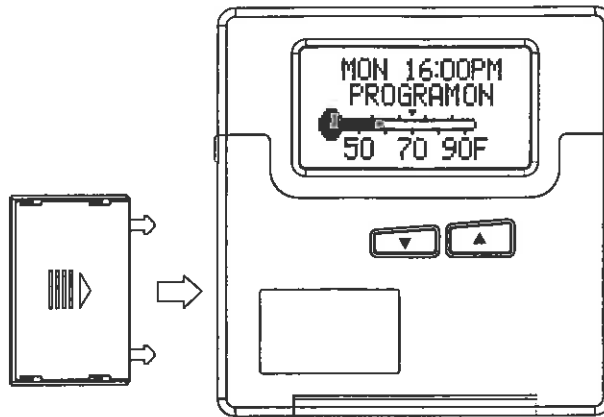

Figure 9
- 3 Slide the battery compartment into the Wall Mount Programmable Transmitter as shown in figure 9.